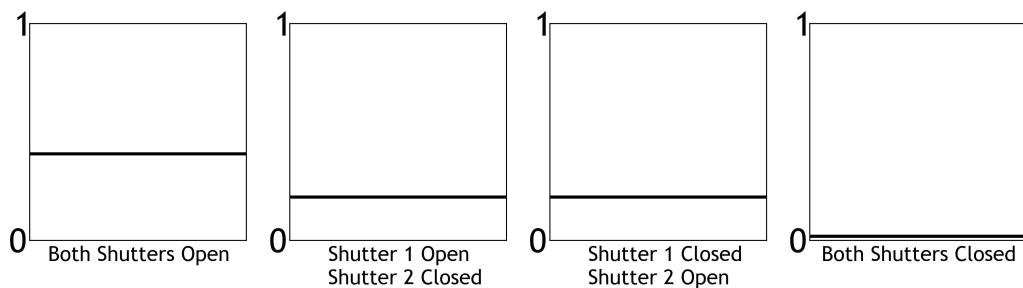

Figure 5.11.: Shutter related signal behavior in "Zero" scan mode
18. Close both shutters simultaneously. The signal should go down to zero (see Figure 5.11).